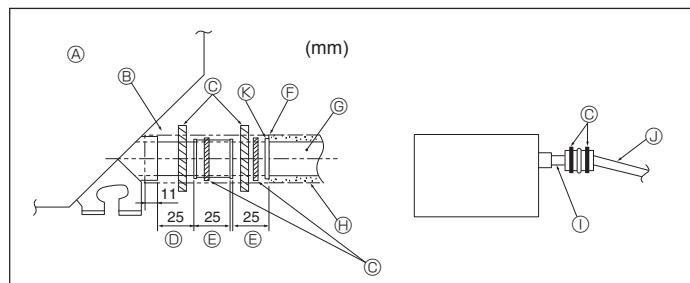

Fig. 5-2
- 1 Connect the drain socket (supplied with the unit) to the drain port. (Fig. 5-2)